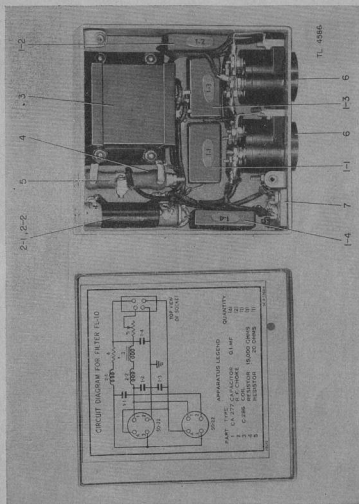

FIGURE 12.—Filter PJ-10, cover removed.
c. The inside view of filter FL-10 is shown in figure 12.